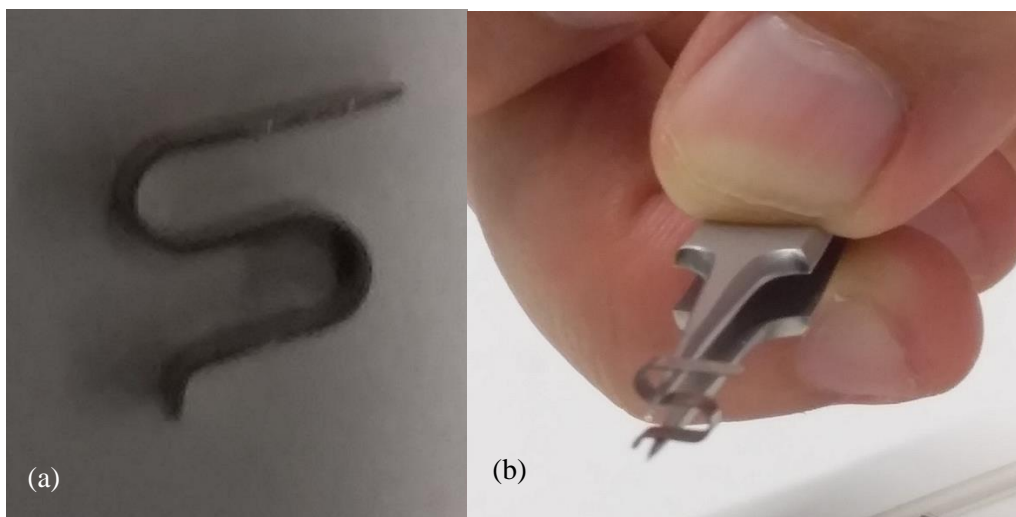
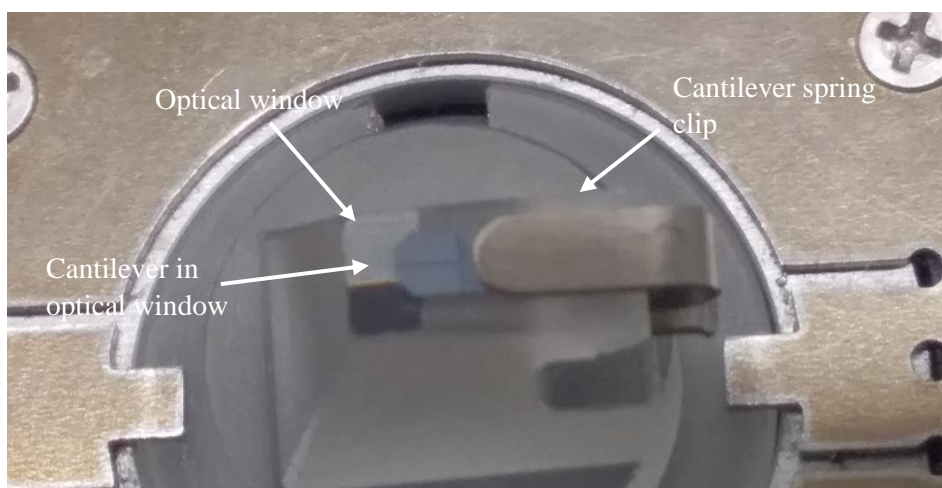

Figure 4: (a) Cantilever spring clip, (b) how to hold the cantilever spring clip.
Figure 5: Cantilever on cantilever holder, held in position by cantilever spring clip.
-Step 3: Using tweezers, hold the cantilever spring clip as shown in Figure 4 (b). This allows you to flex the clip open to place it on the rear of the cantilever holder to clamp the cantilever. Shown in Figure 5.